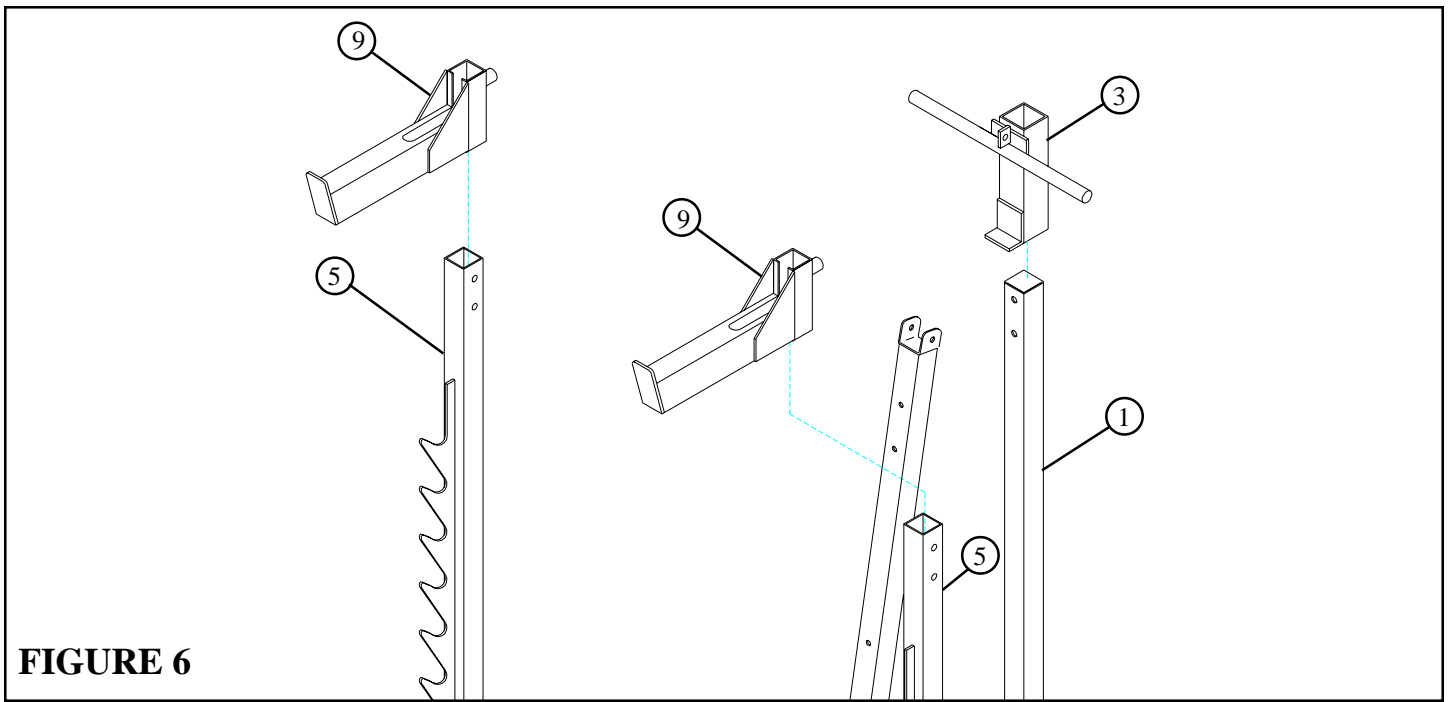

**FIGURE 5**
- Apply eight 1" SQ. GLIDES (53) to the inside of the CARRIAGE (3) as shown in FIGURE 5.
- Attach one 1-1/4" SQ. RUBBER BUMPER (51) to the bottom of the CARRIAGE (3) as shown in FIGURE 5.